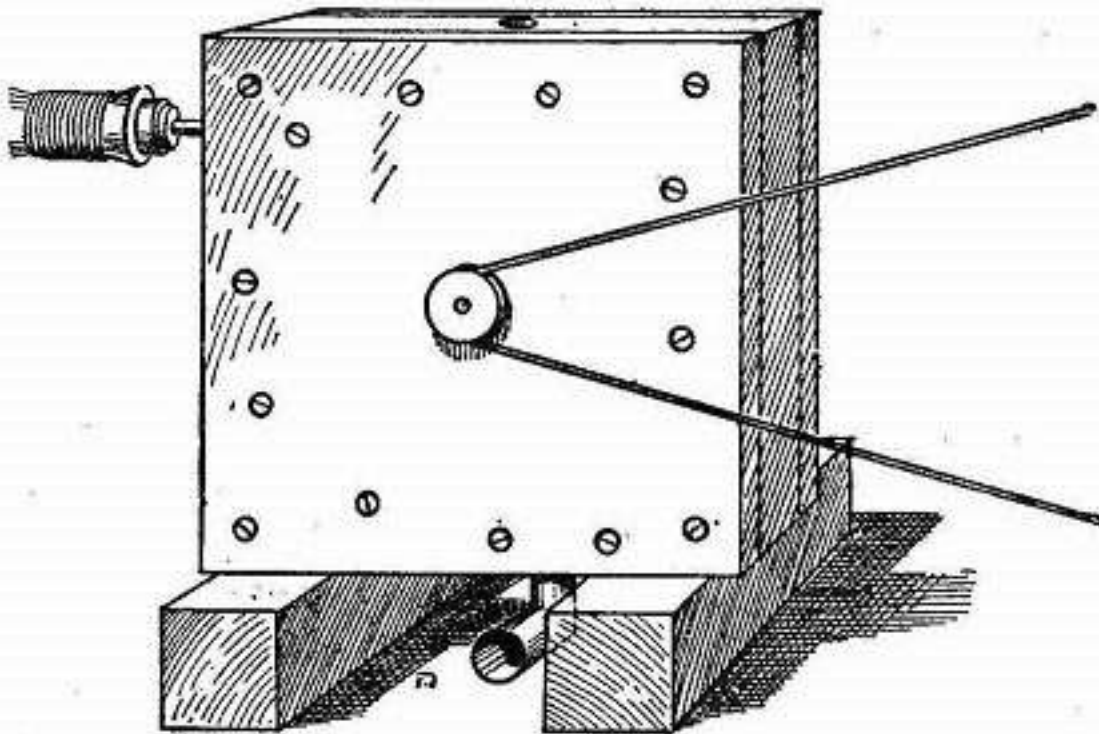

FIG. 105.—Simple water turbine.
**Figure 105 is a perspective view** of a simple water motor which costs little to make, and can be constructed by anybody able to use carpenter's tools and a soldering iron. It will serve to drive a very small dynamo, or do other work for which power on a small scale is required. A water supply giving a pressure of 40 lbs. upwards per square inch must be available.